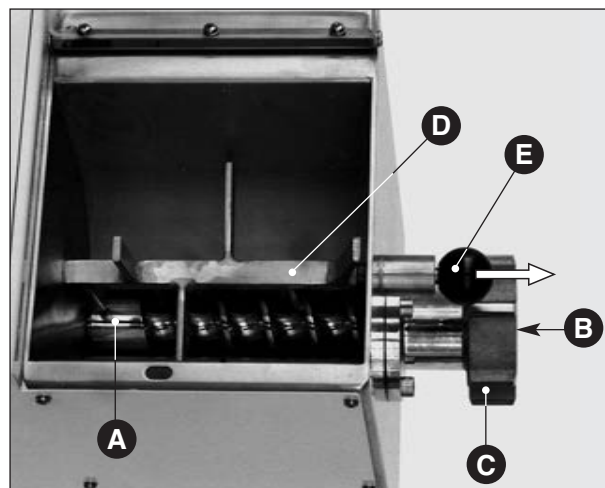

Fig. 1
- position the selector on “0” (Fig. 2 C) and verify the correct set-up of the Archimedean screw (Fig. 1 A) making sure that the cylinder part is sustained by the dragging shaft;
Fig. 1 bis
- then make sure that the plastic cap (**Fig. 1 B**) which replaces the drawplate is correctly positioned and the ring nut (**Fig. 1 C**) is tightly well-screwed on;
- lastly lock the mixer (**Fig. 1 D**) tightly in its seat by means of the head-knob (**Fig. 1 E**) or tighten the mobile support in the TR 75/E (**Fig. 1 bis** see page 21).